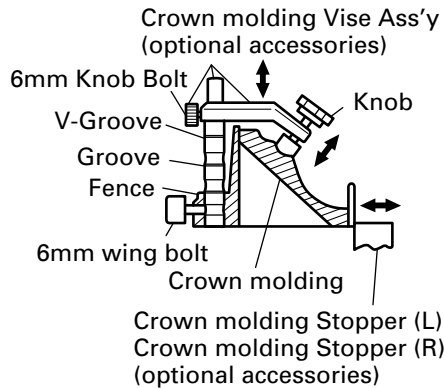

Fig. 45-b
(1) Crown molding Stopper (L) and (R) (optional accessories) allow easier cuts of crown molding without tilting the saw blade. Install them in the base both-sides side to be shown in Fig. 45-a. After inserting Tighten the 6mm knob bolts to secure the crown molding Stoppers.